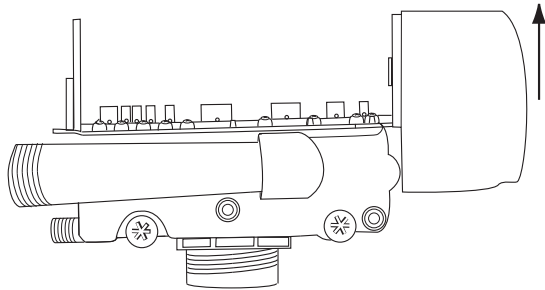

Figure 21
- Lift the control off the valves, Figure 21. To replace the control, reverse the above procedure. Note that the camshaft needs to be positioned correctly before it can be inserted into the back of the control. There is a locating rib on the camshaft. Position the rib on the top of the shaft and slide the camshaft into the control. Push up on the end of the camshaft, furthest from the timer, snapping it into place.